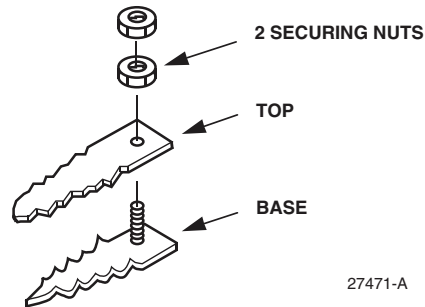

Figure A-1. Kit Components
1. The shield connector kit is comprised of the components shown in Figure A-1.